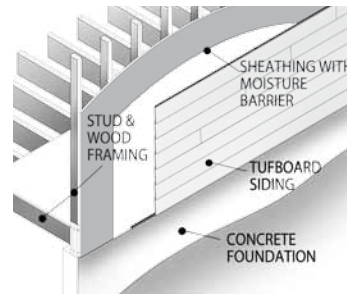

Fig. 18
- Install our SIDING in compliance with local Building Codes requirements for clearance between the bottom edge of panel/framing and the adjacent finished grade (see Fig. 18).